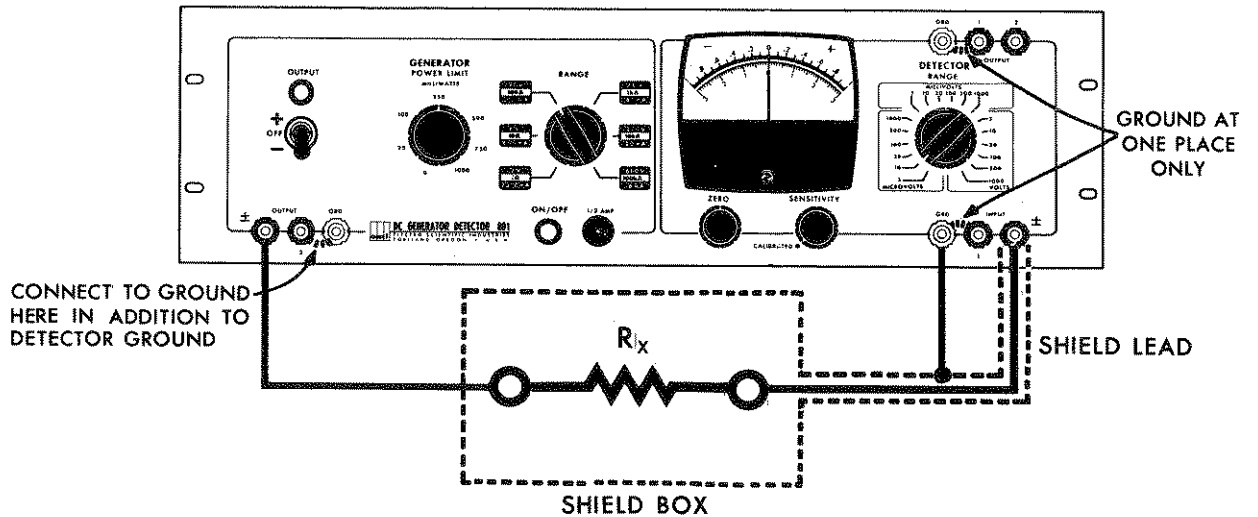

Figure 2.6 High-Resistance Measurement
To measure the approximate value of a very high resistance, such as the leakage in an insulator, use the circuit shown in Figure 2.6.
4. Connect the unknown resistance  $R_x$  in the circuit of Figure 2.6.